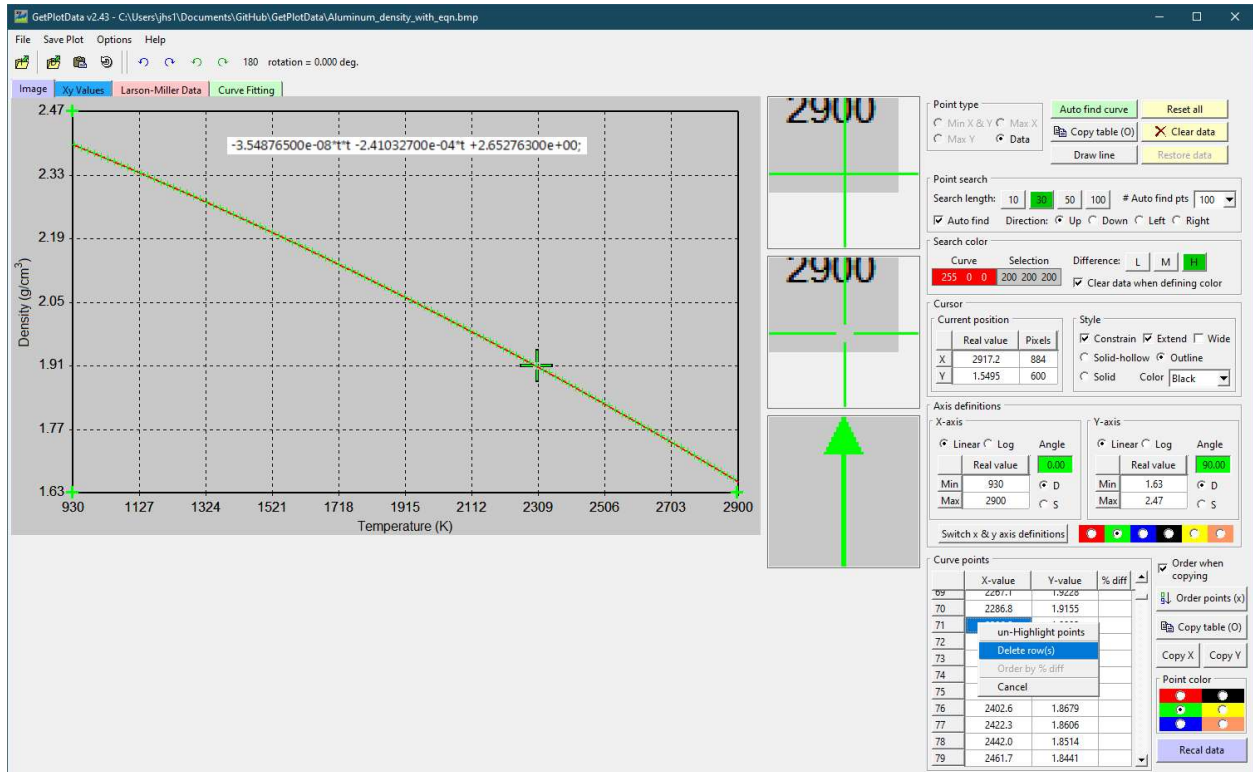

Figure 5. Highlight and delete a point.
- e. If you click on a point in the table, it will be highlighted on the plot in the "Plot Image" tab. You can then right click on the table and delete it if you want to remove it from the table and the curve fitting calculation. (Figure 5)